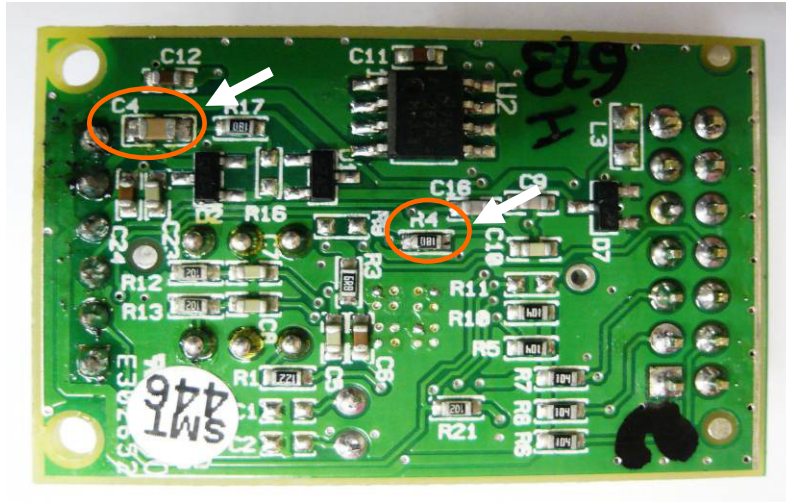

Figure 2 - SIG60 EVB Bottom View
- Verify that capacitor **C4** and resistor **R4** assembled on the SIG60 EVB. See figure 2.